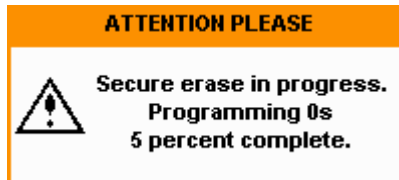

Figure 5-4 Secure erase status pop-up
6. A pop-up appears, as shown in Figure 5-4 informing you of the status of the procedure.